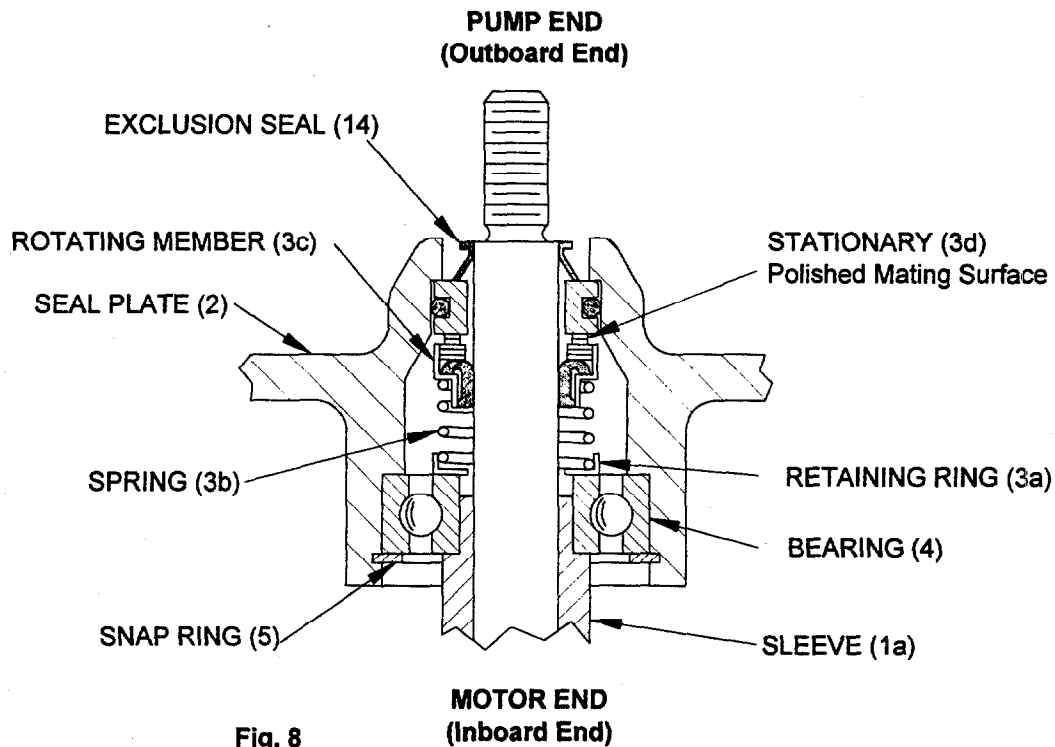

Fig. 8
Drain all oil from motor housing and dispose of properly. Refill with (see parts list for amount) new cooling oil as per table 1. An air space must remain in the top of the motor housing to compensate for air expansion (see Fig. 8). Set unit upright and fill only until the capacitor, or the motor for 3-phase, as viewed through the fill plug hole is covered. When refilling with oil after servicing the shaft seal (3), a pressure test as per section F-1.4 should be done. If shaft seal was not disturbed during service, then apply pipe sealant and replace the pipe plug (21).
When replacing bearings, be careful to not damage the rotor or shaft threads. Press the old bearings off the shaft with an arbor press or gear puller. Clean the shaft thoroughly. Apply adhesive compound to shaft and press new bearing on, pushing only on the inner race, until it seats against shoulder of shaft (see fig.8)